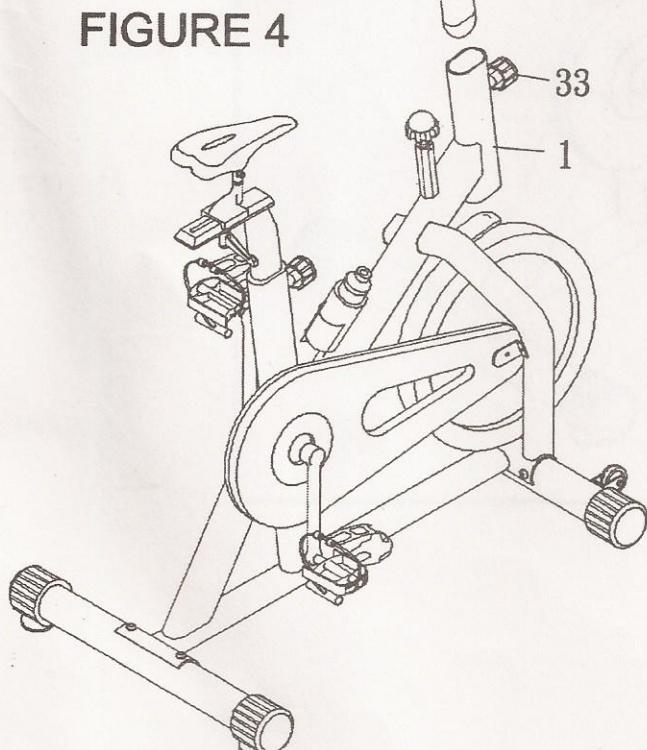

FIGURE 4
Insert the Handle Post (61) into the front for the Main Frame (1) with Knob (33) as shown in Figure 4. *Hands tighten only at this time.*
Slide the Handle Bar (62) to the Handle Post (61) top with Washer (57) and Lock Knob (58) as shown in Figure 4.